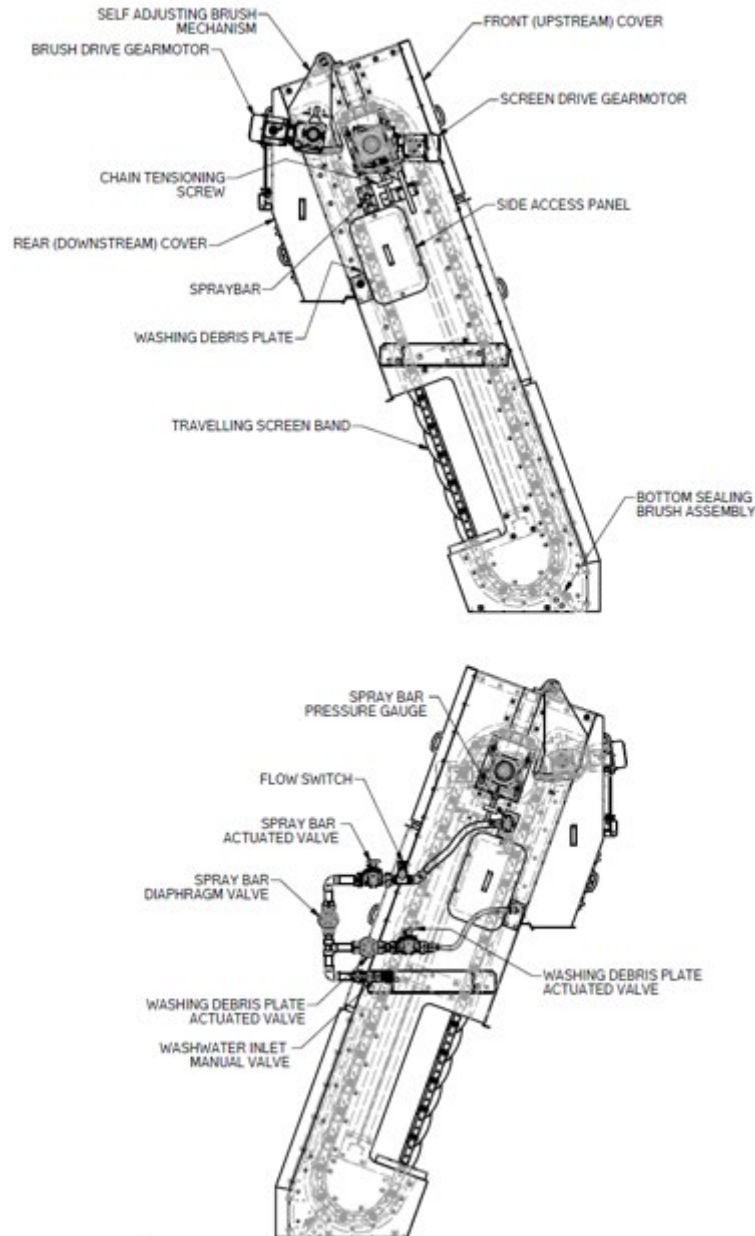

*Figure 1.2a*
There is one identification plate (ID) on each FINEGUARD™. *Figure 1.2a* shows an example of a typical ID plate.